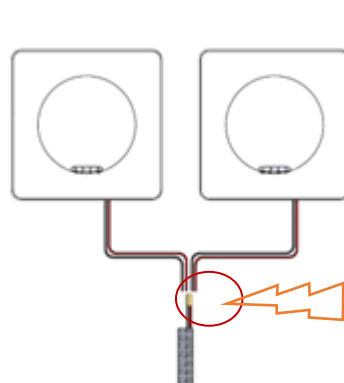

Figure 3-42
2. Insert power line into copper pipe, then press flat copper pipe with vise, finally intertwine copper pipe with electrical tape (Figure 3-42, Figure 3-43, Figure 3-44, Figure 3-45, Figure 3-46, Figure 3-47, Figure 3-48, Figure 3-49).